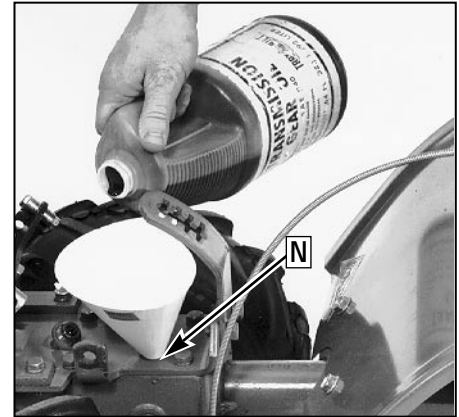

Figure 2-12: Adding gear oil.
- (a) Clean area around the fill hole (N, Figure 2-12) and unscrew gear oil fill plug.
- (c) Using a clean funnel, slowly add gear oil until it flows from the gear oil level check hole (N, Figure 2-12).